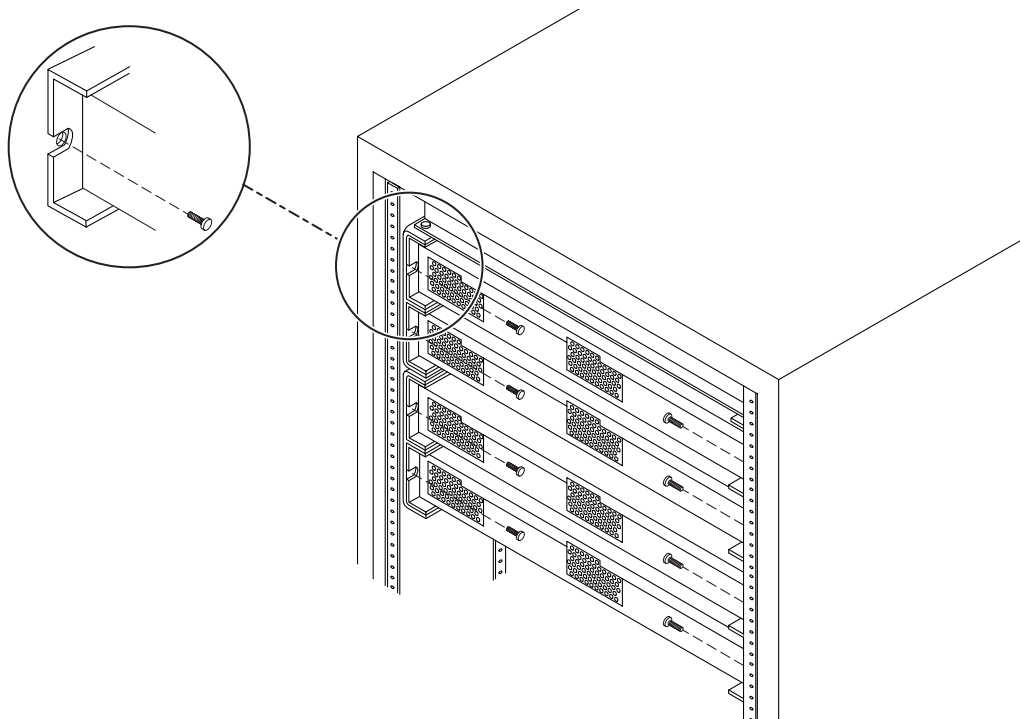

FIGURE 4-4 Installing Four 8-Port Switches Into the Mounting Rails
2. **Insert the front lockdown screws (see FIGURE 4-4 for 8-port switch only).**